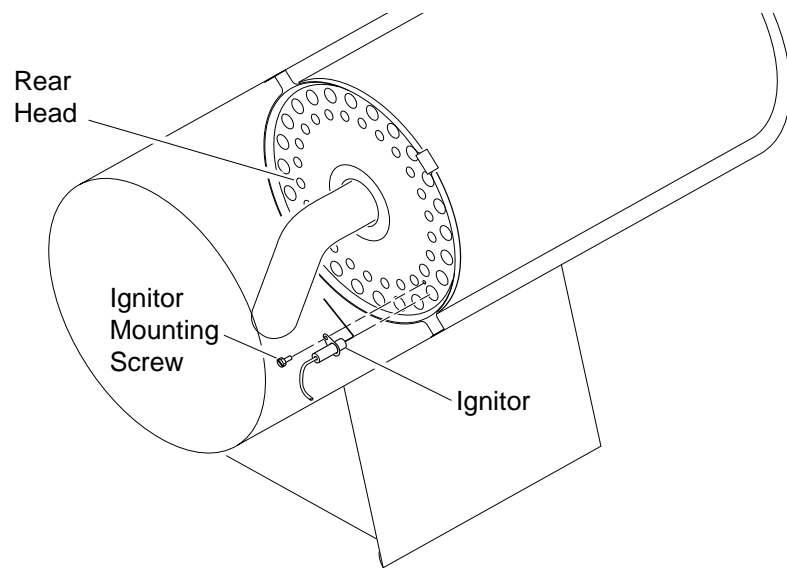

Figure 12 - Removing Ignitor Mounting Screw and Ignitor
3. Remove ignitor mounting screw from rear head using nut-driver or standard screwdriver (see Figure 12).